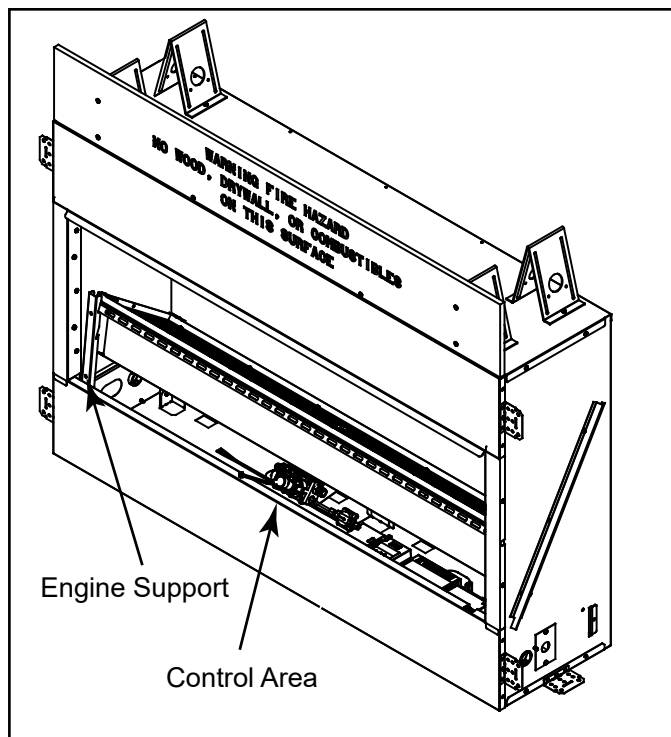

Figure 5.4 - Valve Access
The valve and controls are located in the appliance control area. See Figure 5.4.
The controls area can be accessed by lifting engine assembly as shown in Figure 5.4.
- Remove two (2) screws securing burner assembly to appliance, set aside.
- Lift the burner assembly and place the two engine supports, provided under the engine, against lower front space at the bottom of the face, and slide into the slots at the bottom of the engine assembly. See Figure 5.4.